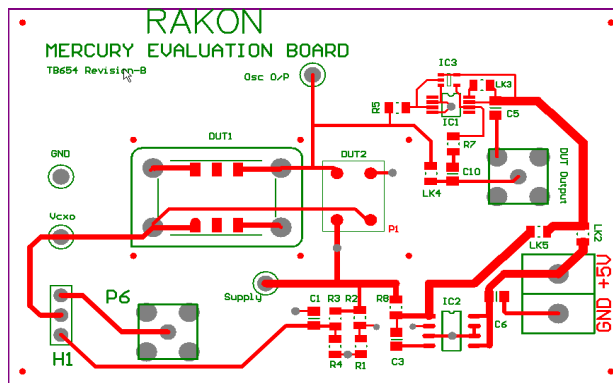

Figure 1 EVB Layout (Front)
**Important Note: The direct output from the oscillator is connected to test pad Osc. O/P (see Figure1) for all evaluation boards configurations (direct coupled, Buffered HCMOS & Buffered Clipped Sine) and can be probed with a suitable high impedance probe (eg. FET probe).**
A three way header (H1 Figure 1) is provided to select VCXO options. This must be configured to match requirements as described below: